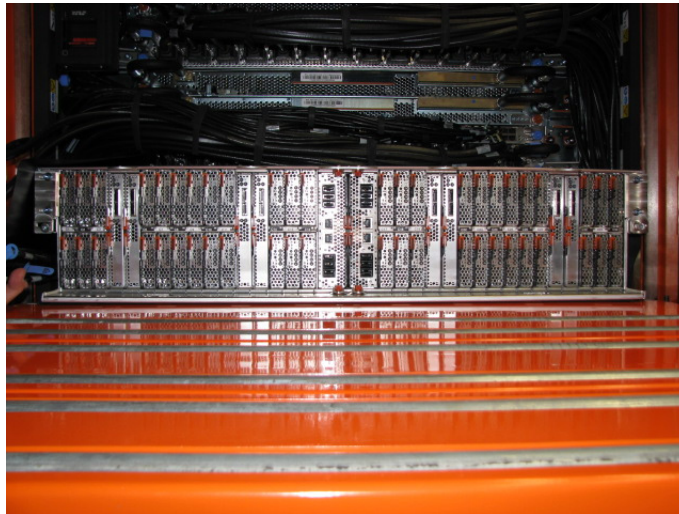

Figure 42 Front of DE resting on lift tool
- Using the *Manual Drive* raise the lift tool table so it contacts the DE and then slightly further to transfer the DE weight to the lift tool table. *Do not raise the lift tool table too high as this will result in the DE being driven into the CEC or BPA above which can cause damage* (see Figure 42).